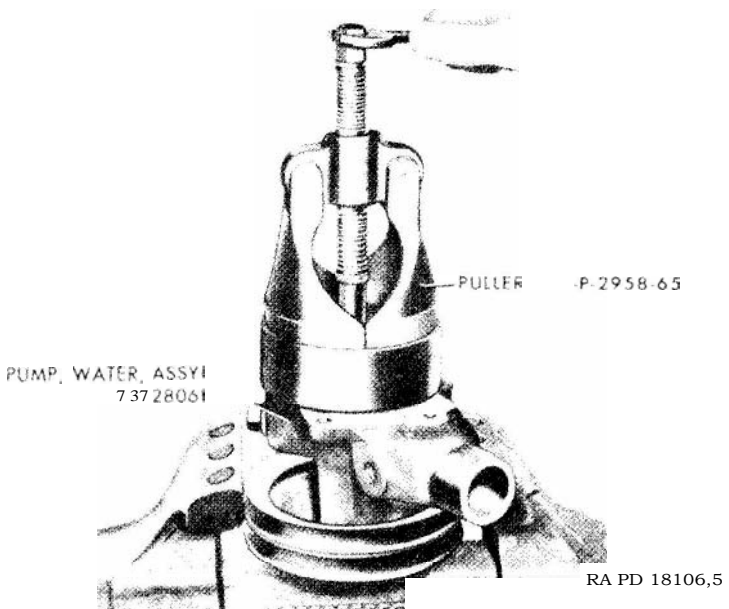

Figure 55. Removing water pump impeller.
- b. Clamp the water pump in a bench vise and remove the water pump impeller (figs. 55 and 58) using puller 41-P-2958-65.